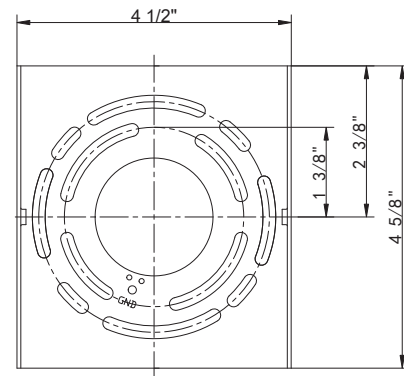

Fig. 3 Wiring
CONNECTING THE WIRES (Fig. 3)
5. Connect the fixture's wires to house wires as shown (Fig.3). Make sure that all wire connectors (A) are secured. If your outlet box has a green or bare copper ground wire, connect the fixture's ground wire to it. Otherwise, tuck the fixture's ground wire directly to the fixture. After wires are connected, tuck them carefully inside the junction box.